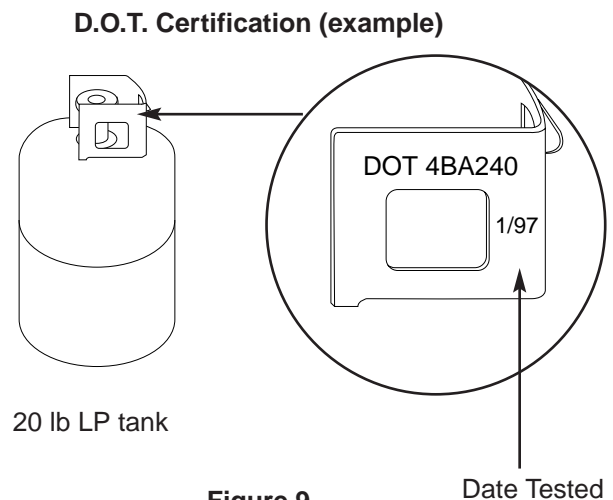

Figure 9
- Replacement LP tanks supplied by Weber satisfy the requirements. Check to be sure the tank has a D.O.T. certification, and has been tested within five years. Your LP gas supplier can do this for you. Figure 9.